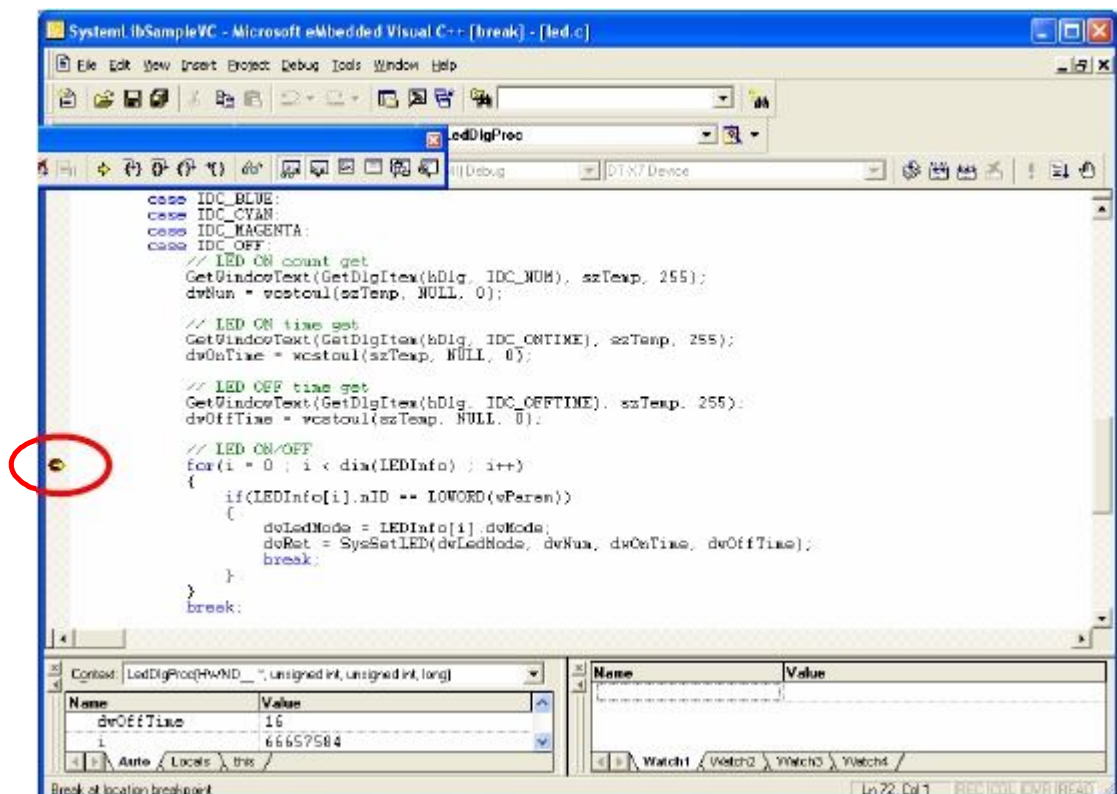

Figure 9.8
3. Similar to ordinary debugging operations with an actual DT-X7, the **Device Emulator** allows break point setting (circled in red in Figure 9.8) in the source code and step-by-step debugging.